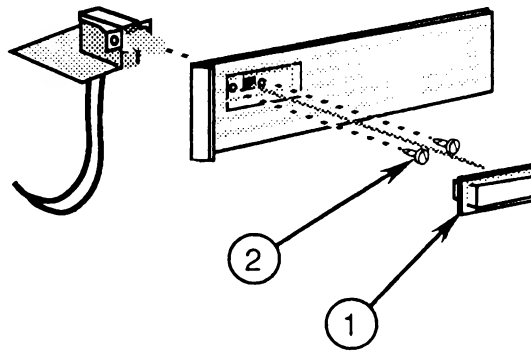

FIGURE 37
6. Pull the switch button (Figure 37, #1) off its shaft.
7. Remove the two screws (Figure 37, #2) that secure the on/off switch to the plastic bracket.
1. Replace the two mounting screws (Figure 37, #2) that secure the on/off switch to its bracket.
2. Snap the switch button (Figure 37, #1) onto the switch shaft.